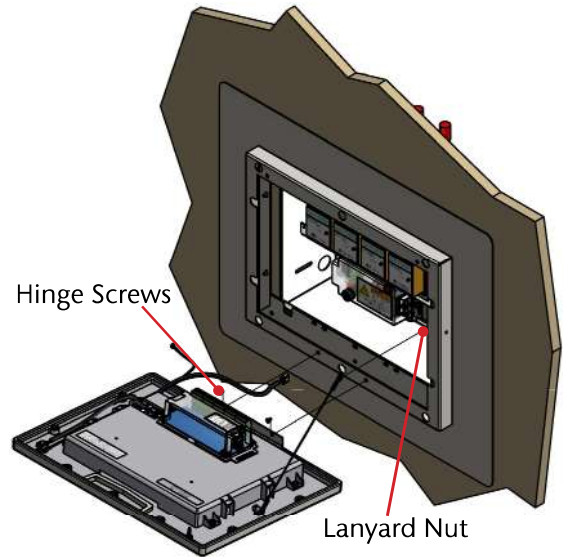

Figure 210: Front Panel Mounting
4. Connect the ground cable from the front panel to the rough-in box (Figure 210).